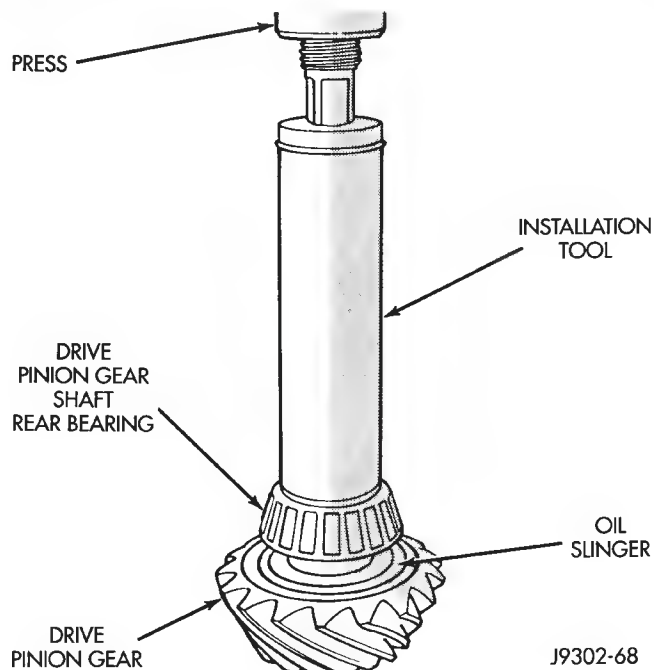

Fig. 50 Pinion Rear Bearing Installation
(1) Remove rear pinion bearing cup with Remover D-149 and Handle C-4171. Place shims (and baffle if equipped) in the pinion gear rear bearing bore. Install the bearing cup with Installer D-146 and Driver Handle C-4171. Ensure cup is correctly seated.
(3) Install rear bearing and oil slinger on pinion gear with Installer W-262 until completely seated (Fig. 50).